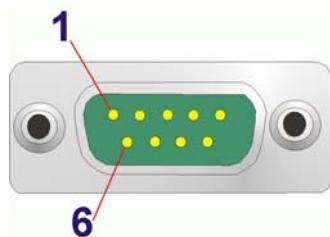

Figure 3-22: Serial Port Pinout Locations
**CN Pinouts:** See Table 3-23 and Figure 3-22